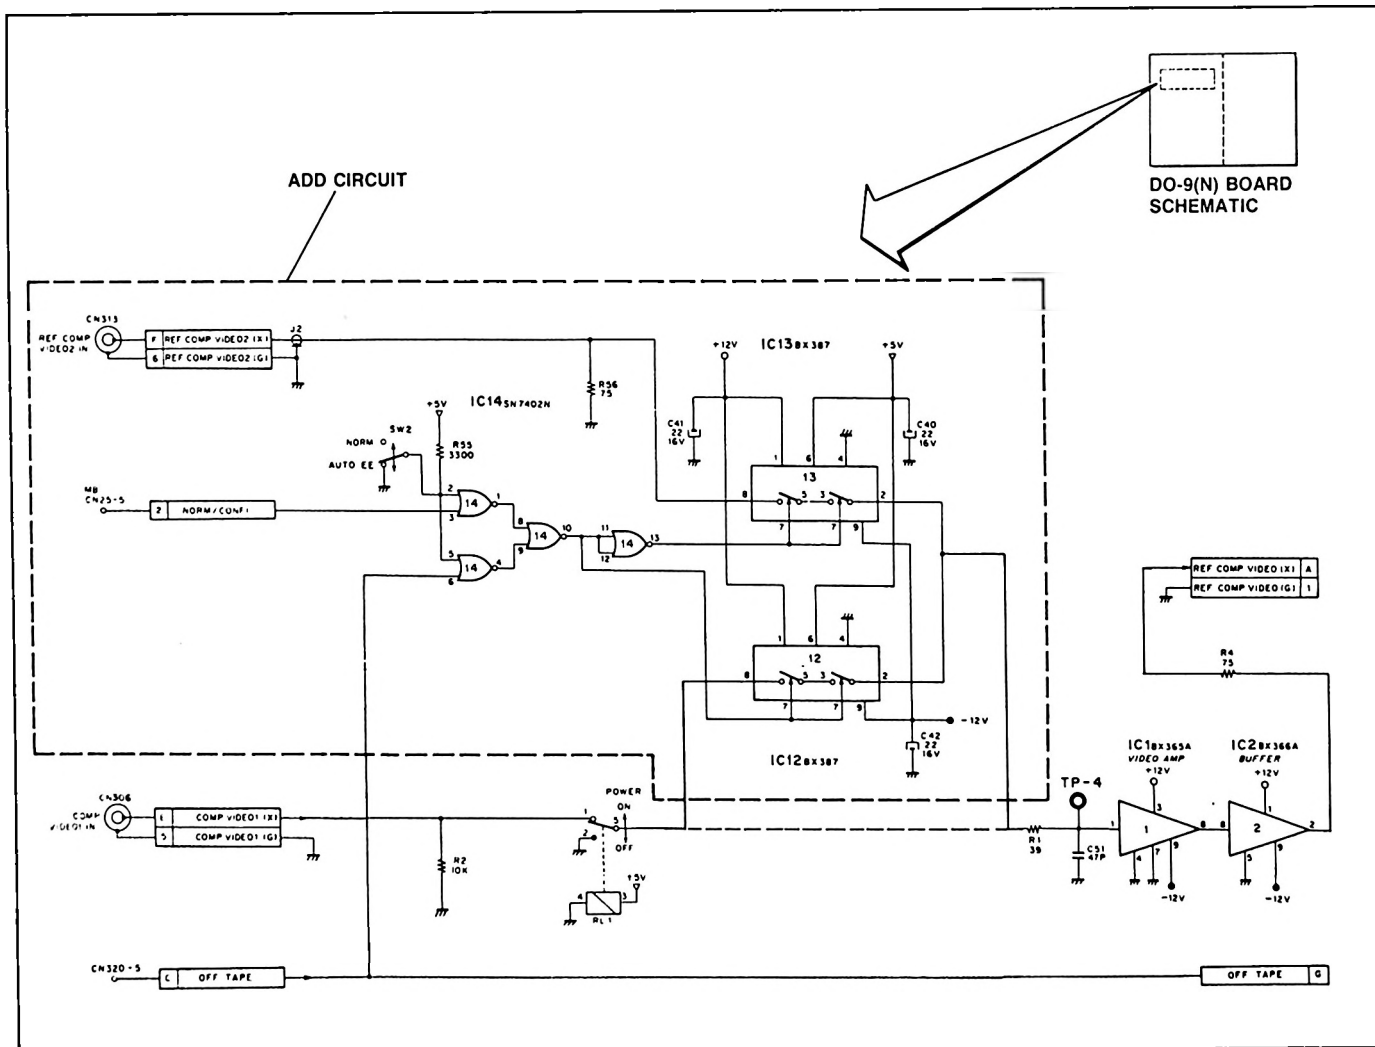

Figure 6
4. Install new circuit illustrated in Figure 6 in space provided by Step 1.